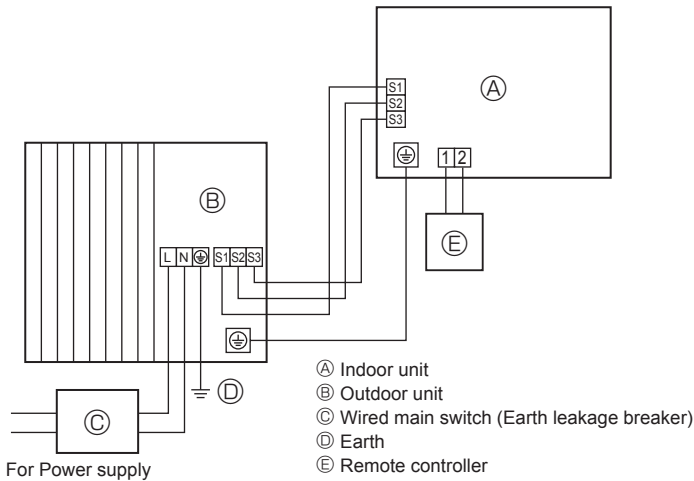
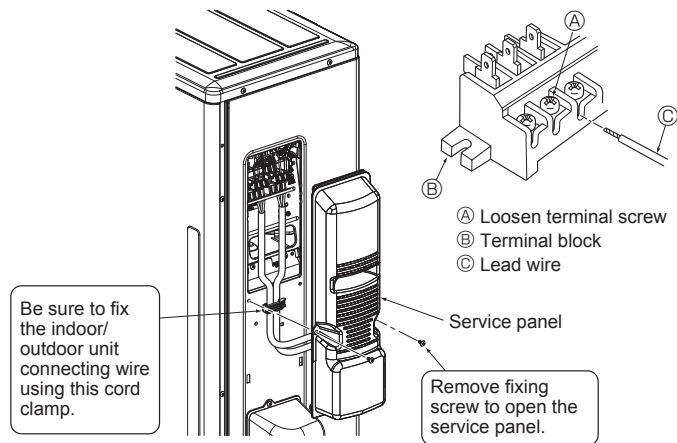
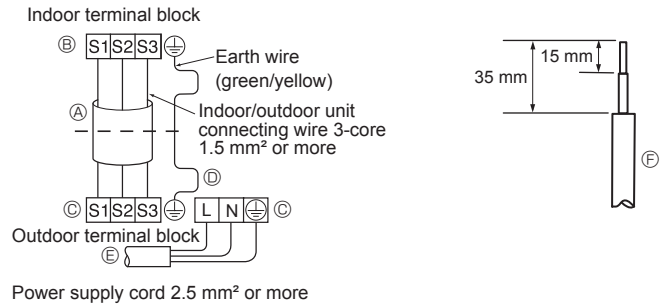

Fig. 6-1
Fig. 6-3
Fig. 6-2
6.1. Outdoor unit (Fig. 6-1, Fig. 6-2, Fig. 6-3)
- ① Remove the service panel.
- ② Wire the cables referring to the Fig. 6-1, Fig. 6-2 and the Fig. 6-3.
- Perform wiring as shown in the diagram to the lower left. (Procure the cable locally) (Fig. 6-2)